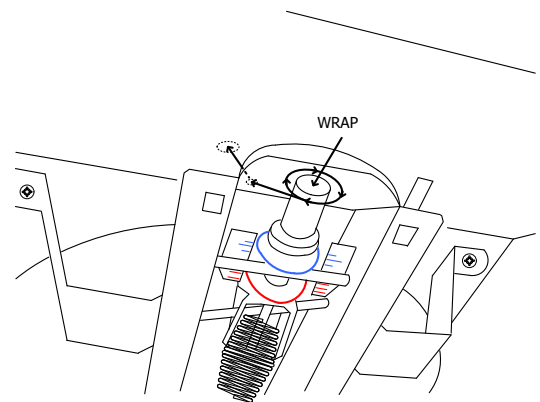

Fig. 4
8. Rout the wires through the $\frac{1}{4}$ " hole in the scoop and through the grommet in the $\frac{5}{16}$ " hole in the housing (see Fig. 4).